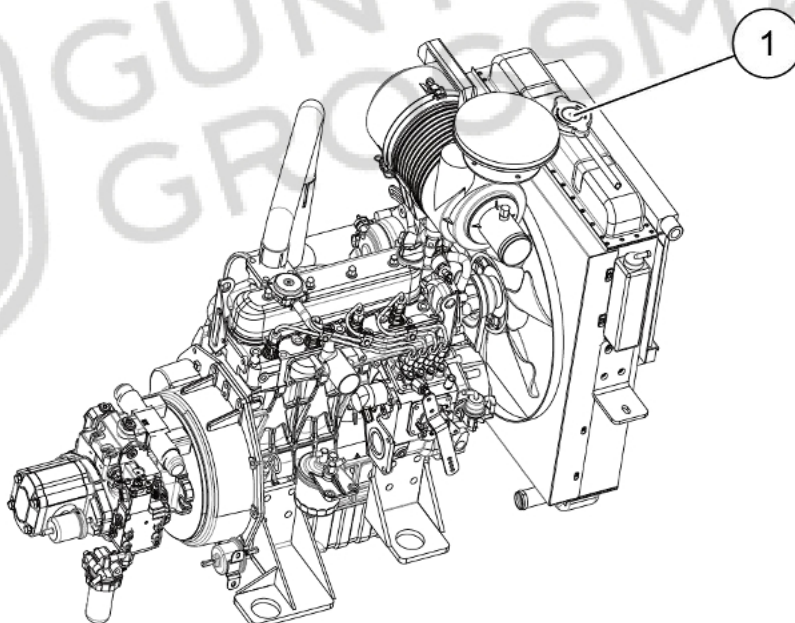

Figure 6-37 Water tank cap
Step 3: After the engine is sufficiently cooled down, slowly unscrew the cap (1), as shown in Figure 6-37;